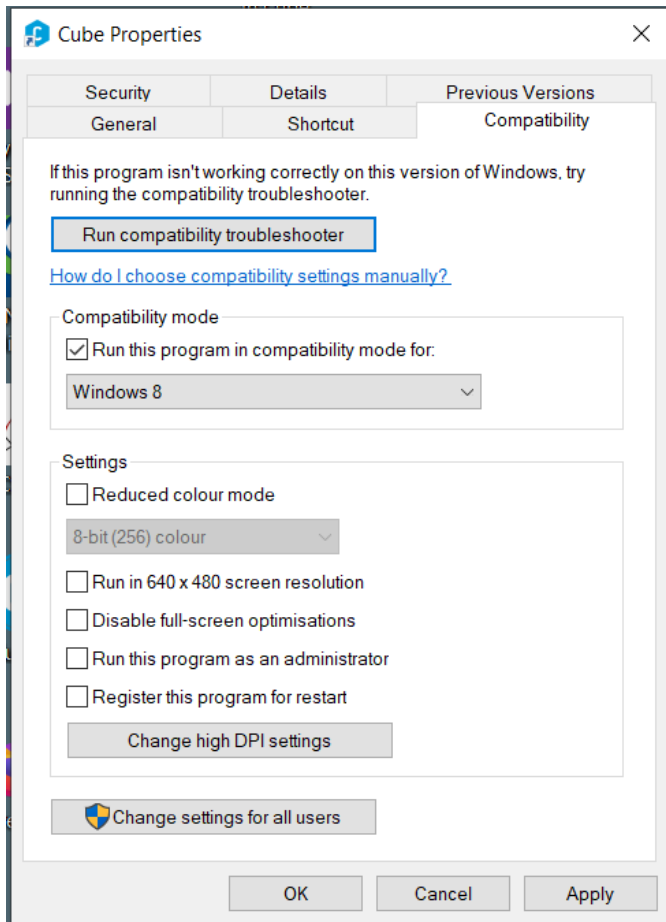

Figure 1 Compatibility mode “Windows8” for Cube (same in Windows 11)
- Set the properties for Cube program according to Figure 1. Please ask support from the IT if special administration rights is required or the settings changes when restarting the machine.